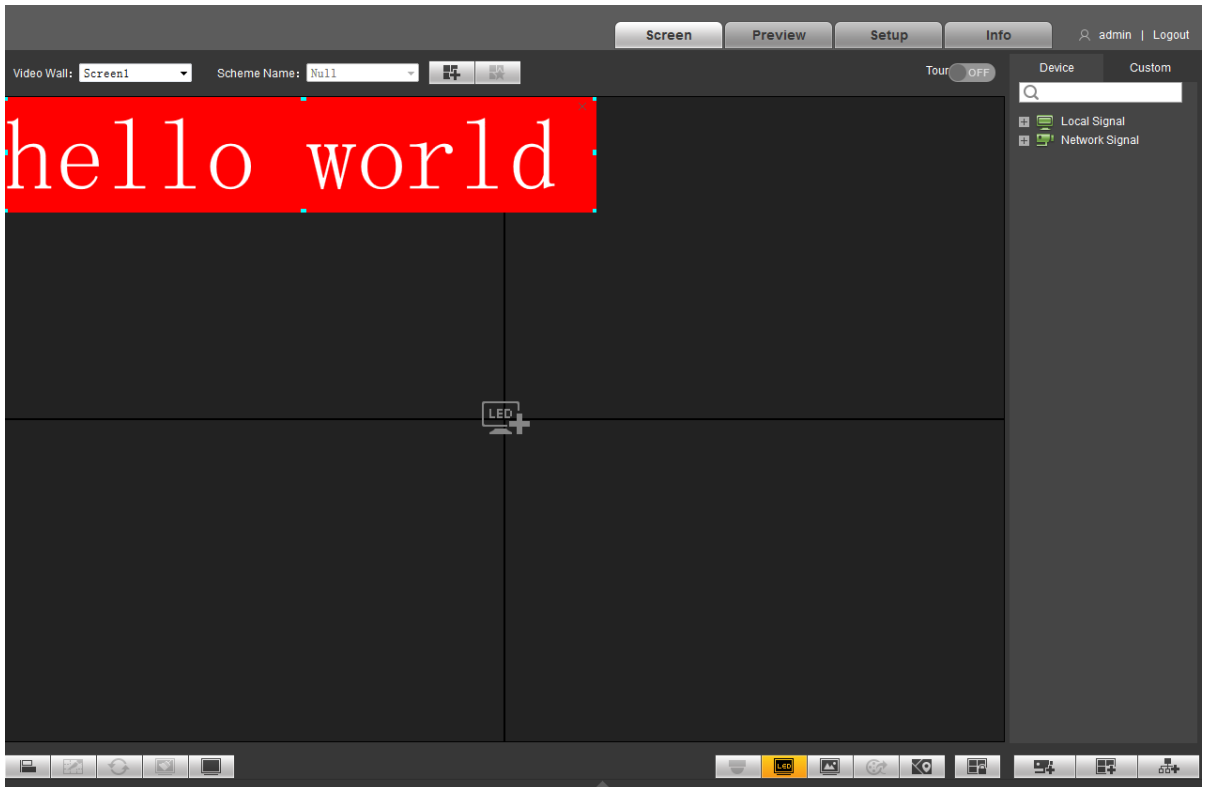

Figure 4-23
Step 4 Click “OK”. Virtual LED displays the title, as shown in Figure 4-23.